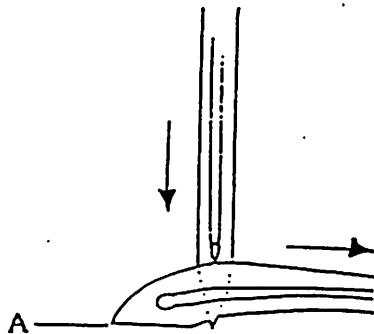

Fig. 8
c) Adjustment of thread tension cam (Refer to Fig. 8.)